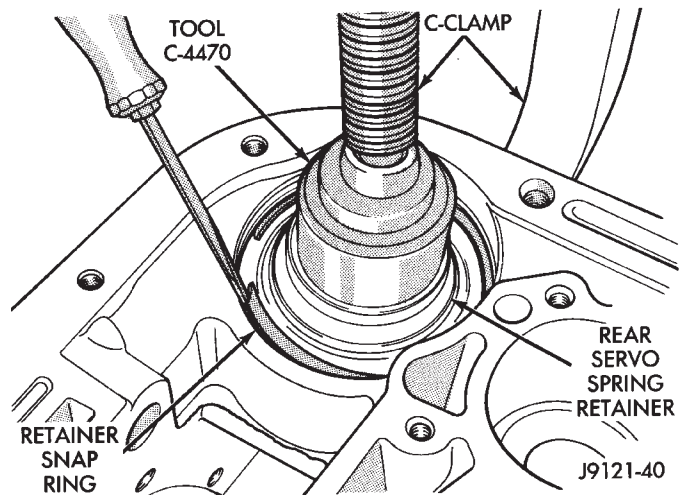

Fig. 131 Installing Rear Servo Snap Ring—46RH
(4) Compress rear servo piston with C-clamp or Valve Spring Compressor C-3422-B and install servo piston snap ring (Fig. 131).